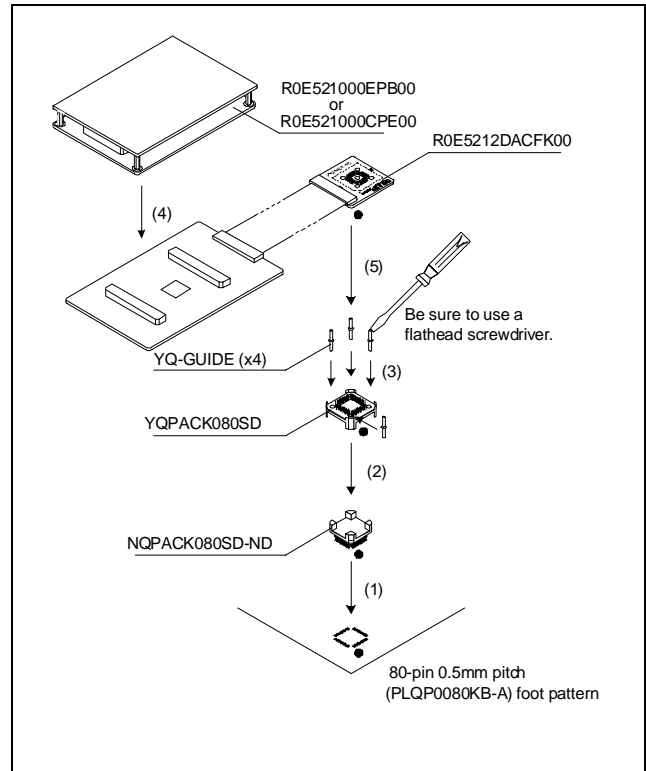

Figure 3 Connection procedure of the R0E5212DACFK00
5. Connection Procedure (See Figure 3)